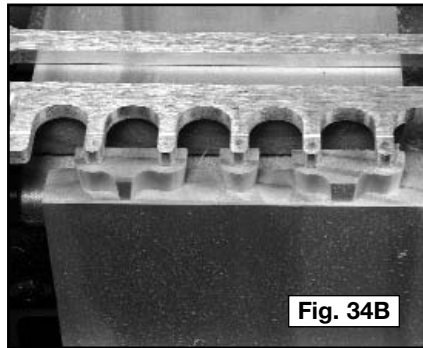

Fig. 34B
**Step 3** - Use the router to round over the ends of the cuts (Fig. 34B).